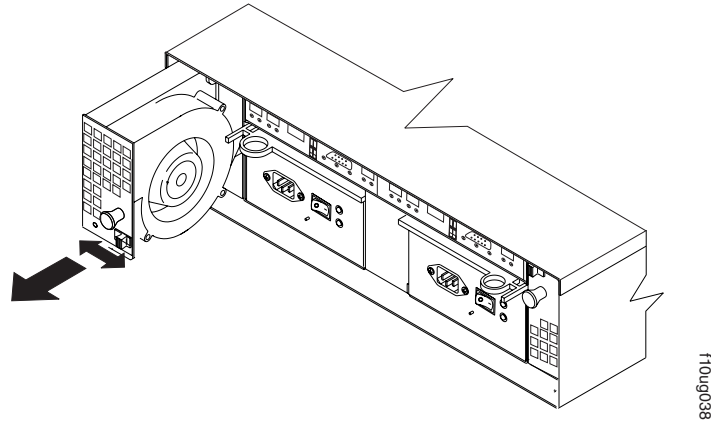

Figure 64. Removing a fan
- b. Use the handle (black knob) to pull the fan from the storage subsystem. See Figure 64 on page 96.